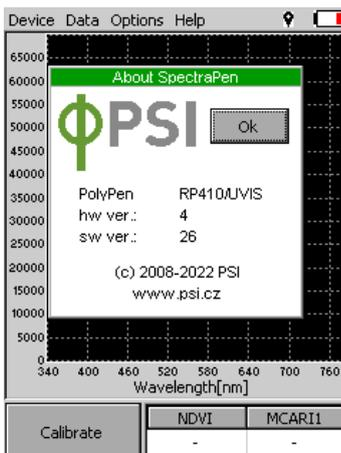

Fig. 11 About
- **About...**- information about the device, hardware and software version (Fig. 11).